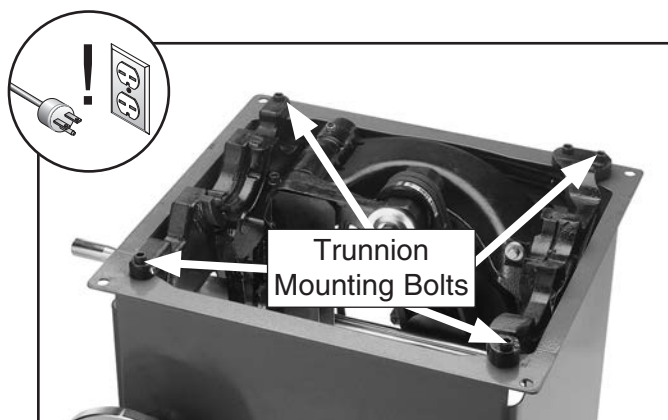

Figure 116. Trunnion mounting bolts.
3. Loosen five trunnion mounting bolts shown in **Figure 116**, and nudge trunnion to either left or right depending on where blade is hitting saw.